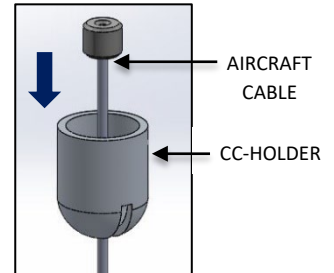

FIG. 11 - SS ROPE CABLE
- Locate the AIRCRAFT CABLES. Feed all the AIRCRAFT CABLE through the CC-HOLDER. Once fed all the way through, screw CC-BASE and CC-HOLDER together as shown in FIG. 11.